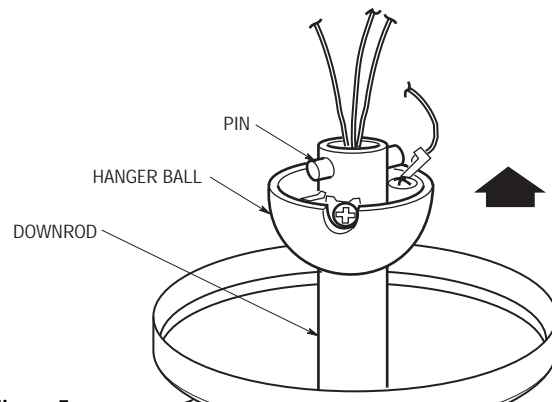

Figure 5
7. Position the ceiling cover over the downrod. Be sure the cover is oriented correctly, with the large opening at the top (Figure 5).
- 8. Reinstall the hanger ball on the downrod (Figure 5) as follows. Route the motor leads through the hanger ball and slide the hanger ball over the downrod. Install the pin through the holes at the top of the downrod and slide the hanger ball up the downrod, aligning the ball so the pin is captured in the groove in the top of the hanger ball. Pull the hanger ball up tight against the pin and securely tighten the setscrew in the hanger ball. A loose setscrew could create fan wobble.